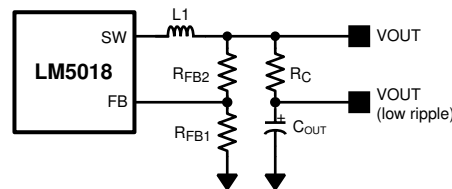

图 7-1. Low Ripple Output Configuration
This regulator regulates the output voltage based on ripple voltage at the feedback input, requiring a minimum amount of ESR for the output capacitor ( $C_{OUT}$ ). A minimum of 25 mV of ripple voltage at the feedback pin (FB) is required for the LM5018. In cases where the capacitor ESR is too small, additional series resistance can be required ( $R_C$  in 图 7-1).
For applications where lower output voltage ripple is required, the output can be taken directly from a low ESR output capacitor, as shown in 图 7-1. However,  $R_C$  slightly degrades the load regulation.